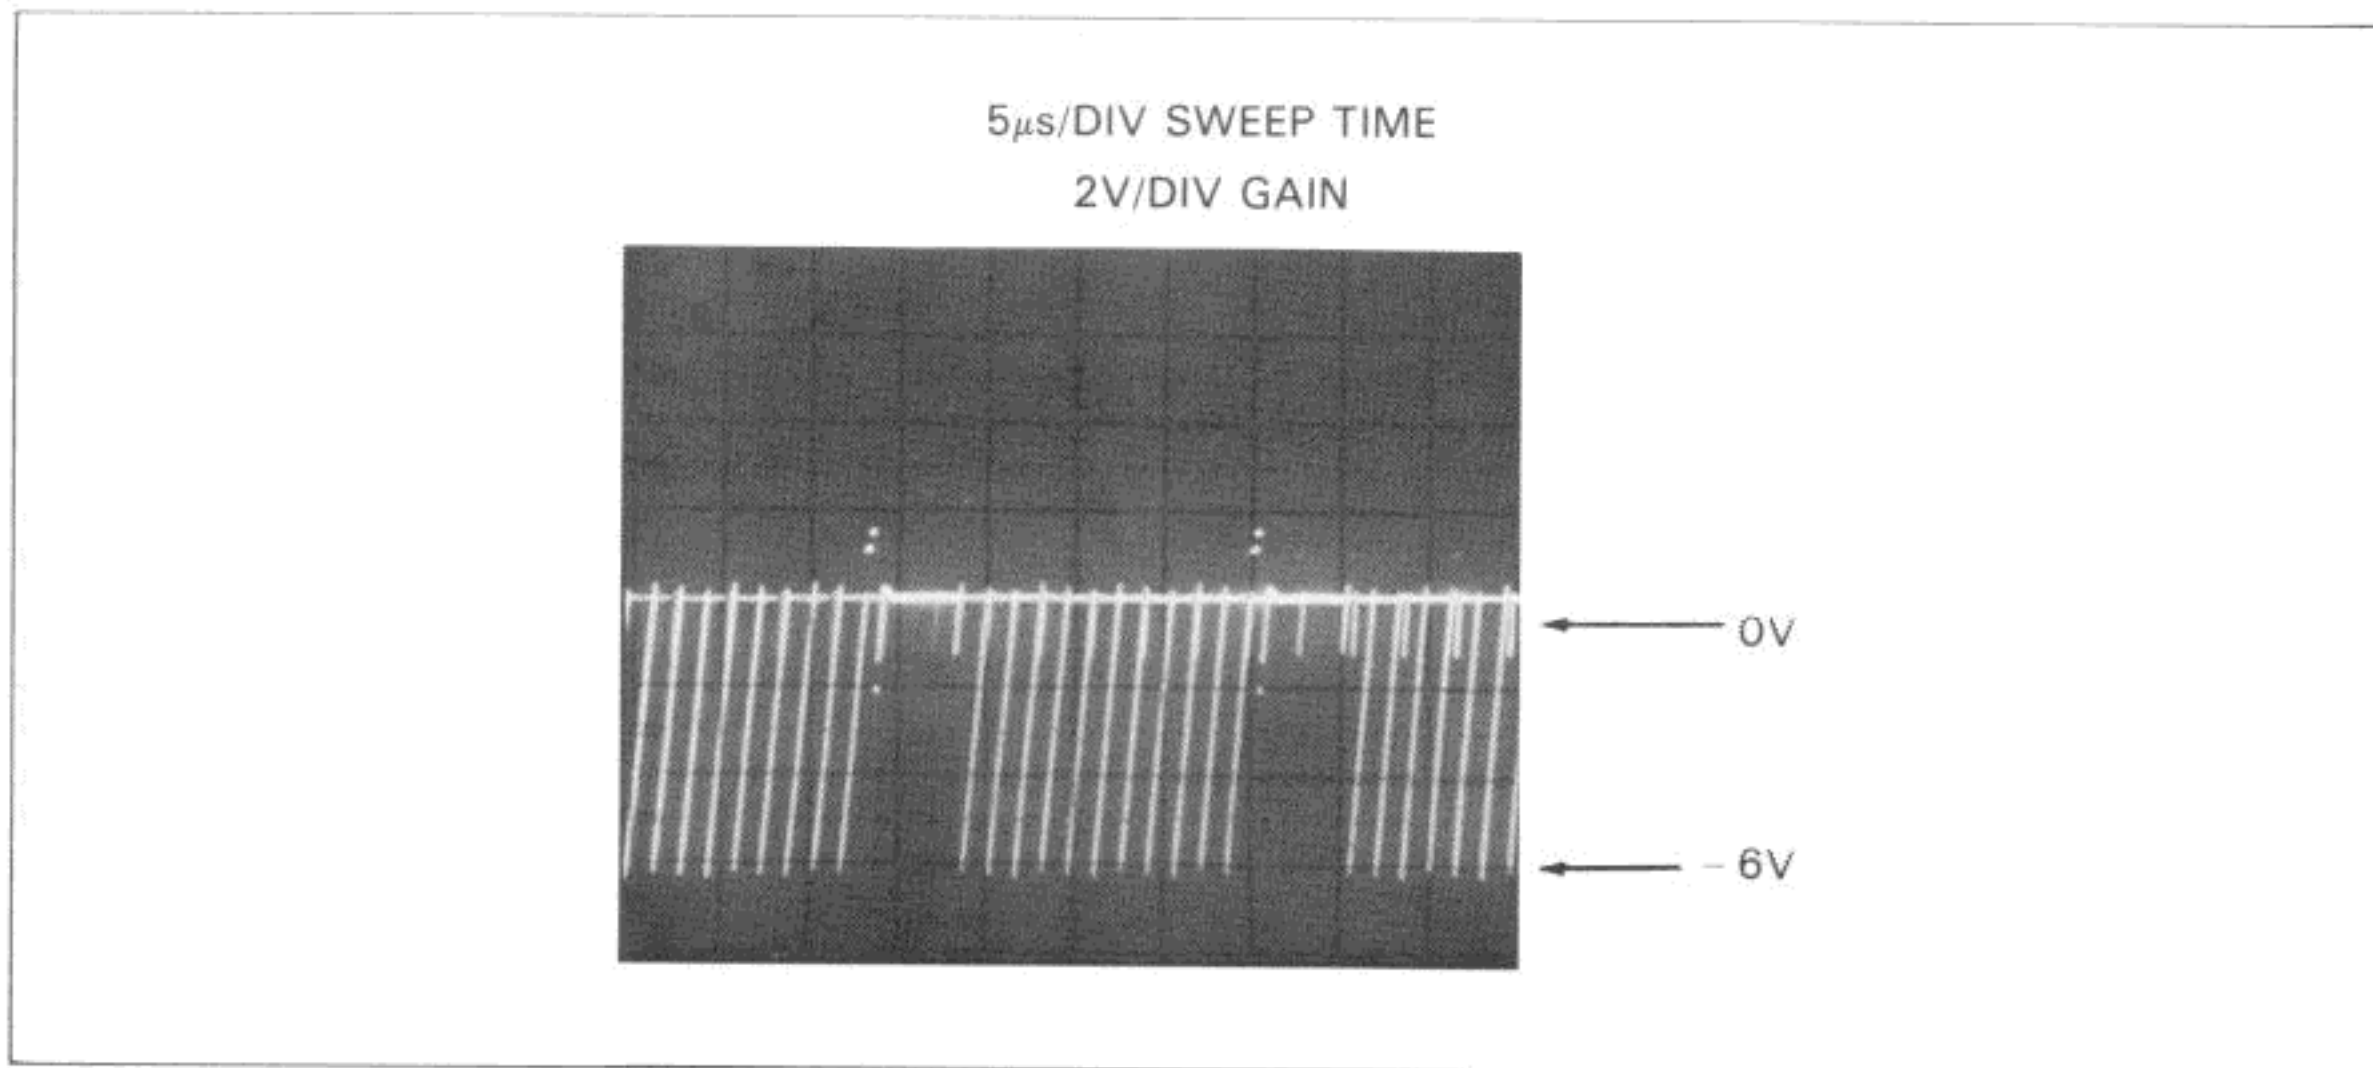

Figure 1-8-D-2. Integrator Output Waveform (U401 pin 6)
- c. Set the oscilloscope for 5 ms/div sweep time and 2V/div vertical gain, and then monitor U401 pin 6 for the waveform shown in Figure 1-8-D-2. Note: to obtain this waveform the HP 3421A must be configured as outlined in step a, and the dc input voltage must be 3V. Also, the waveform appears only when a trigger occurs (i.e., the ENTER statement of the program is executed). Thus, the waveform will not be a steady display on the oscilloscope, which is the reason a storage oscilloscope is preferred. If the waveform is incorrect, replace U401. If it is correct, proceed with step d.